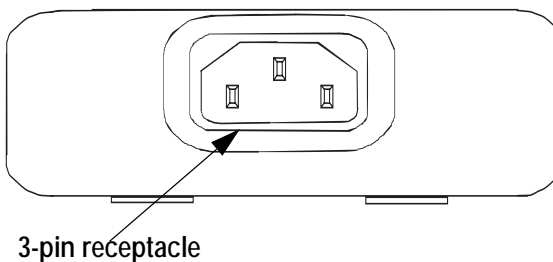

Figure 2-4 Power Supply Unit - Front View
4. Attach one end of the power line cord, provided with the ODAU II, to the 3-pin receptacle located on the front of the PSU. See Figure 2-4 on page 7.